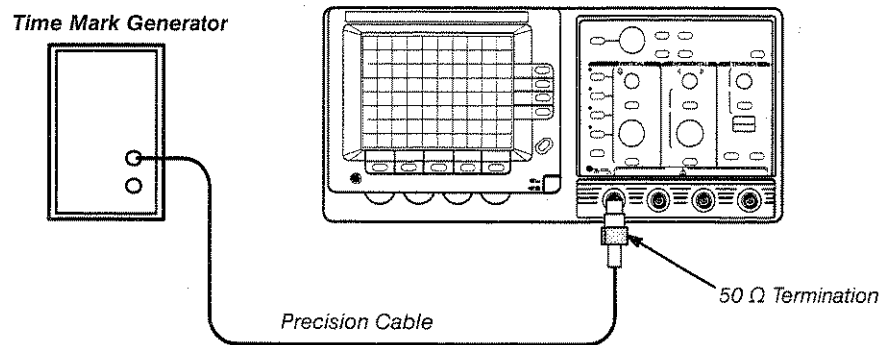

Figure 7-7: Horizontal Output Calibration Setup
17. Connect the output of the time mark generator to the **CH 1** input as shown in Figure 7-7.